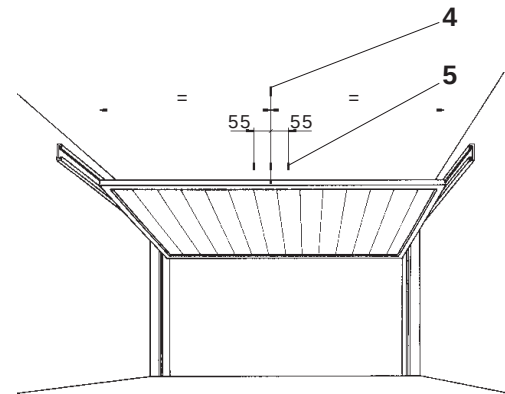

Fig. 3
- Completely open the door, transfer the door center (4) to the garage ceiling. At a distance of 55 mm each from the door center, trace a clearly visible mark (5) on the right and left side. Fig. 3
- Completely open the door, mark the door center (4) on the ceiling ➔ drive axis. Fig. 3